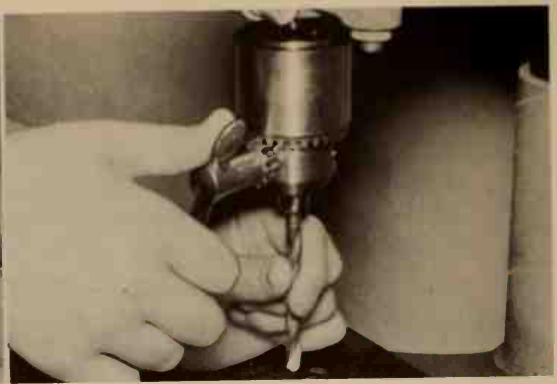

Fig. 4-50. Left, Using on electric hand drill. Fig. 4-51. Right, Inserting a drill in the drill press chuck.
4. Hold the drill with one hand and steady it with the other. Turn on the power and apply steady pressure, Fig. 4-50.